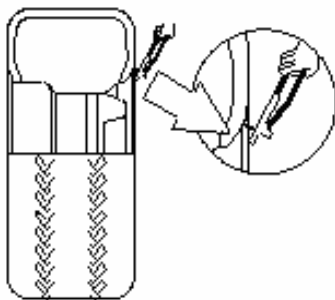

Fig 5
- Ø Remove any counterweight and other foreign body from the wheel before mounting it avoiding any danger. When remove the counterweight, the demounting/mounting pliers supplied with the machine should be used (Fig. 5).